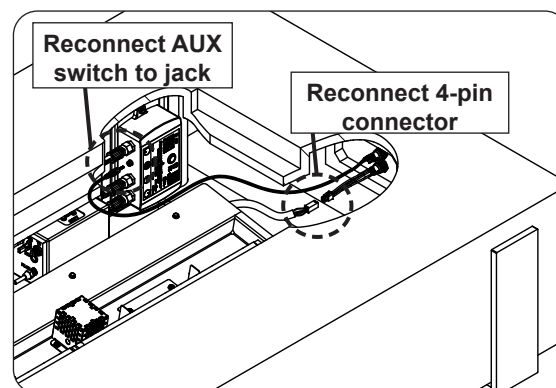

Fig. 26-2 Reconnect AUX switch and connector
6. Reconnect the AUX switch and the 4-pin connector (see Fig. 26-2).